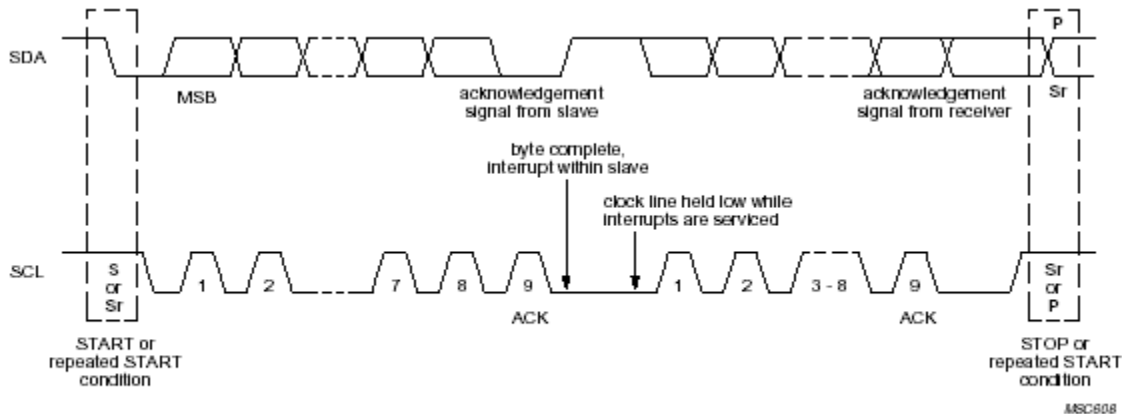

Fig.6 Data transfer on the I2C-bus.
The bus stays busy if a repeated START (Sr) is generated instead of a STOP condition. In this respect, the START (S) and repeated START (Sr) conditions are functionally identical (see Fig.6). For the remainder of this document, therefore, the S symbol will be used as a generic term to represent both the START and repeated START conditions, unless Sr is particularly relevant.
Every byte put on the SDA line must be 8-bits long. The number of bytes that can be transmitted per transfer is unrestricted. Each byte has to be followed by an acknowledge bit. Data is transferred with the most significant bit (MSB) first (see Fig.6). If a slave can't receive or transmit another complete byte of data until it has performed some other function, for example servicing an internal interrupt, it can hold the clock line SCL LOW to force the master into a wait state. Data transfer then continues when the slave is ready for another byte of data and releases clock line SCL.